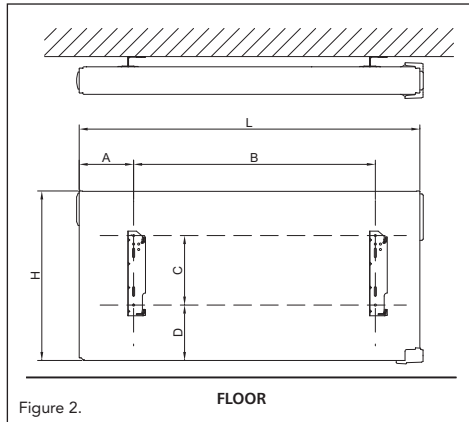
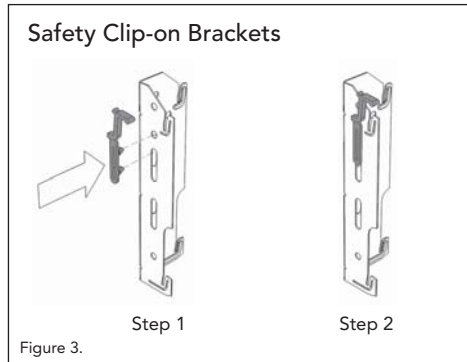

Figure 2.
Figure 3.
- Mark out the distance between the brackets and the positions for the screw holes as shown in figure 2 and the dimension tables at the top of page 7, and ensure the safety clips are used (see figure 3).
FINESSE EC Double Panel (refer to figure 2)